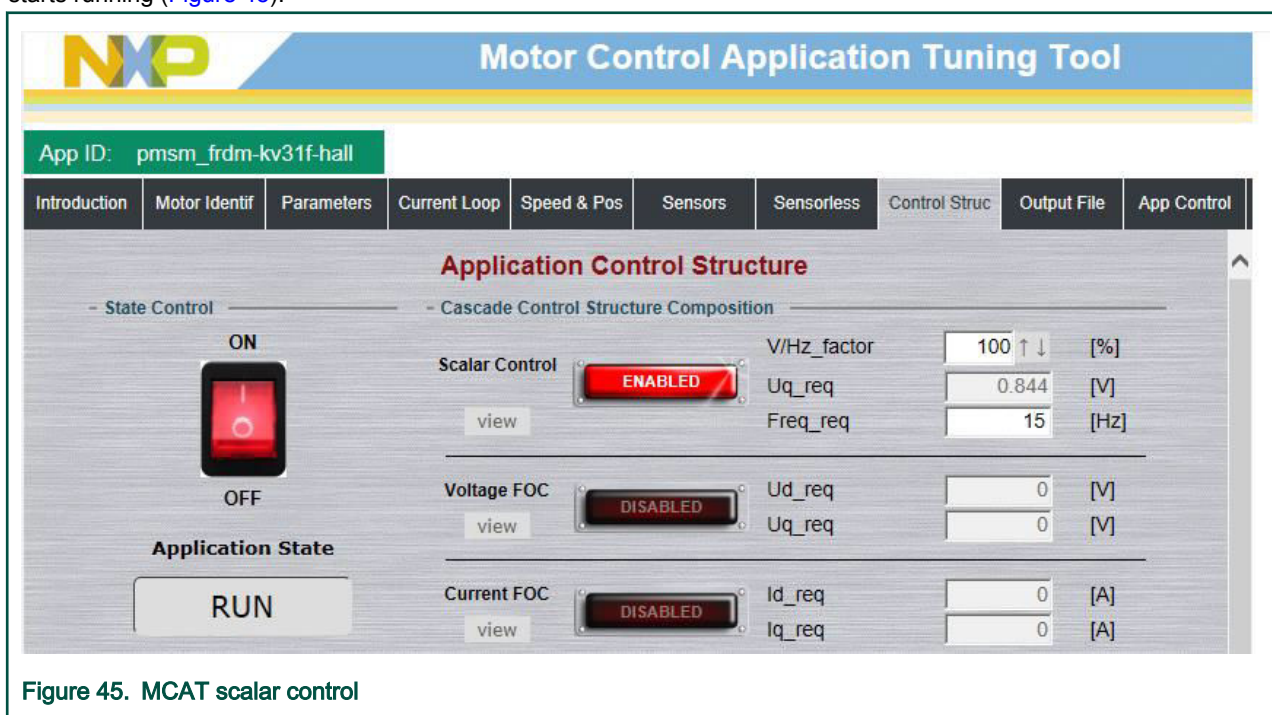

Figure 45. MCAT scalar control
- Set the required frequency value in the “Freq_req” field; for example, 15 Hz in the “Scalar Control” section. The motor starts running (Figure 45).